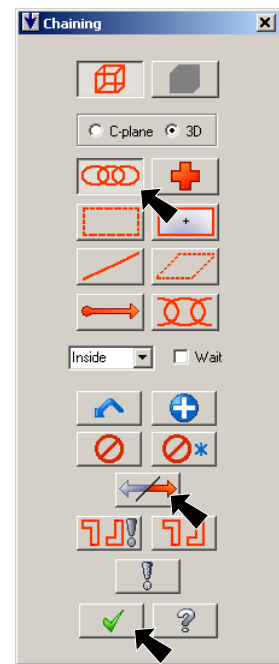

Fig. 13
Step 2. Click the Chain (C) in the Chaining dialog box, **Fig. 13**.
If Chaining direction arrow points in wrong direction - click **Reverse** in Chain dialog box, **Fig. 13**.